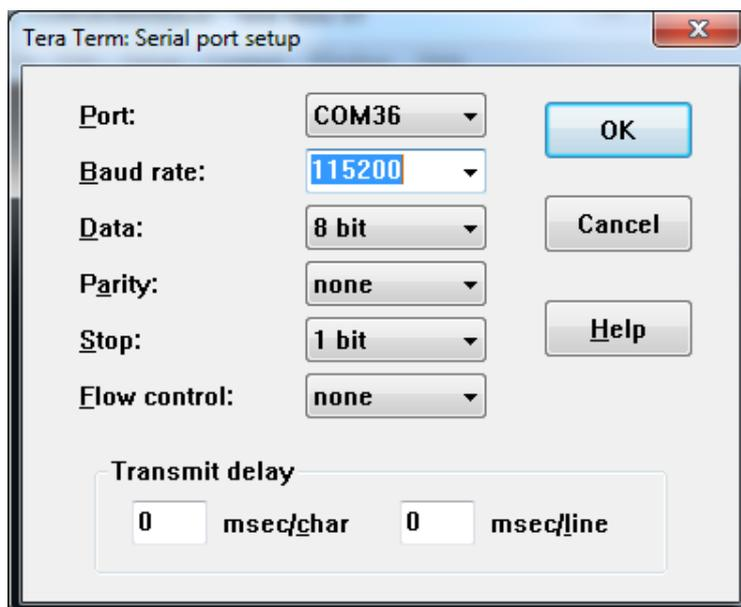

Figure 6 - Tera Term, setup serial port
2. Go to Setup → Serial port and set the Baud rate to **115200** as shown in Figure 6. The terminal application is now connected to the virtual COM port and the board.